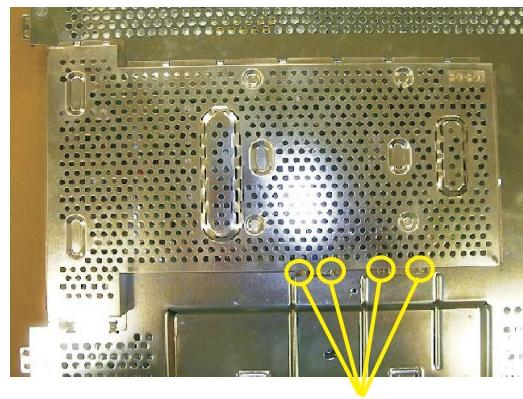

Fig. 7
Step 5 : Remove four screws (E). See Fig. 7